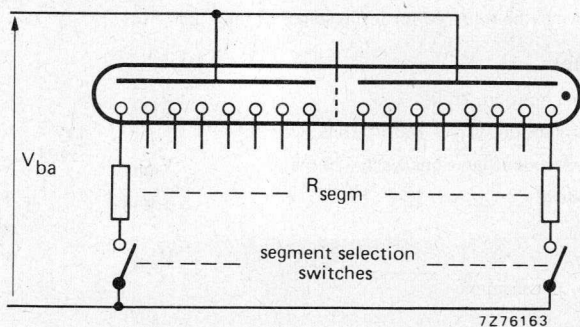

Fig. 1.
**Static operation** see Fig. 1